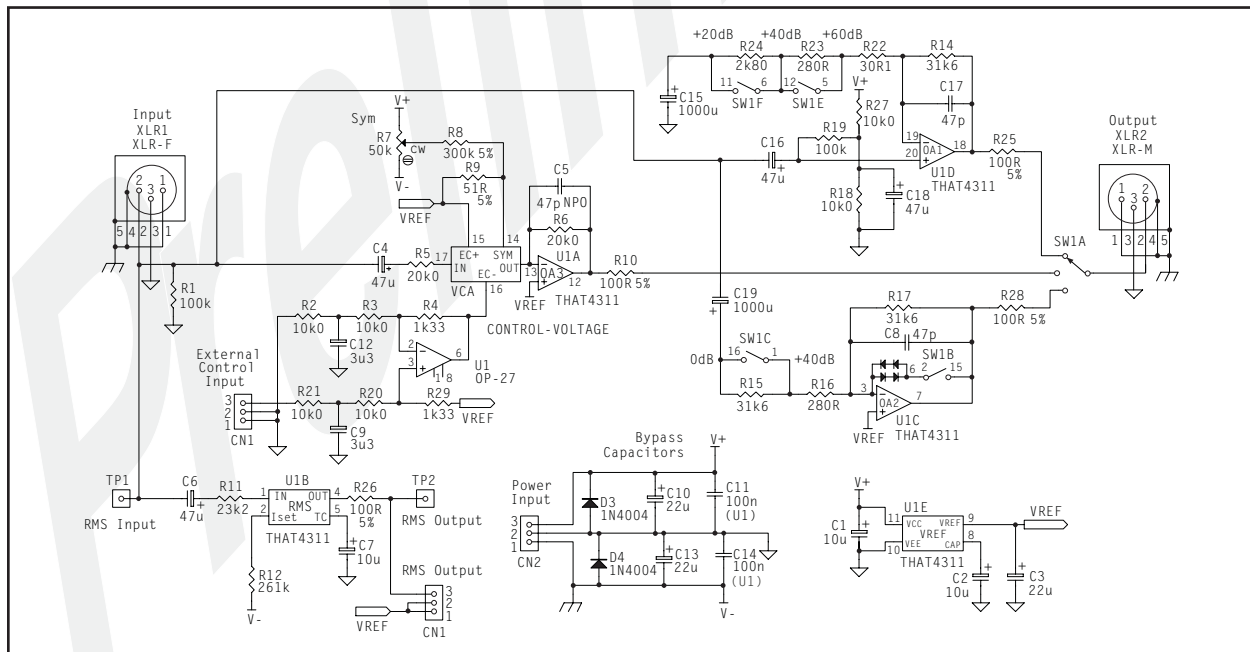

Fig 2. THAT 4311 test circuit
2. Unless otherwise noted, T_A=25°C, test circuit as shown in Fig 2.
Input signals are currents to the VCA IN pin. This pin is a virtual ground biased at VREF, so in normal operation an input voltage is converted to input current via an appropriately sized resistor (R5 in Fig 2, Page 3). Because the current associated with DC offsets relative to VREF present at the input pin and any DC offset in preceding stages will be modulated by gain changes (thereby becoming audible as thumps), the input pin is normally AC-coupled (C4 in Fig 2).
The VCA output signal is also a current, inverted with respect to the input current. In normal operation, the output current is converted to a voltage via inverter OA3, where the ratio of the conversion is determined by the feedback resistor (R6, Fig 2) connected between OA3's output and its inverting input. The signal path through the VCA and OA3 is non-inverting.
As mentioned, for proper operation, the same voltage must be applied to EC+ and SYM, except for a small (± 2.5 mV) DC bias applied *between* these pins. This bias voltage adjusts for internal mismatches in the VCA gain cell which would otherwise cause small differences between the gain of positive and negative half-cycles of the signal. The voltage is usually applied via an external trim potentiometer (R7 in Fig 2), which is adjusted for minimum signal distortion at unity (zero dB) gain.
As in the VCA, input signals are currents to the RMS IN pin. This input is a virtual ground biased at VREF, so a resistor (R11 in Fig 2) is normally used to convert input voltages to the desired current. The level detector is capable of accurately resolving signals well below 10mV (with a 10k Ω input resistor). However, if the detector is to accurately track such low-level signals, AC coupling is normally required.